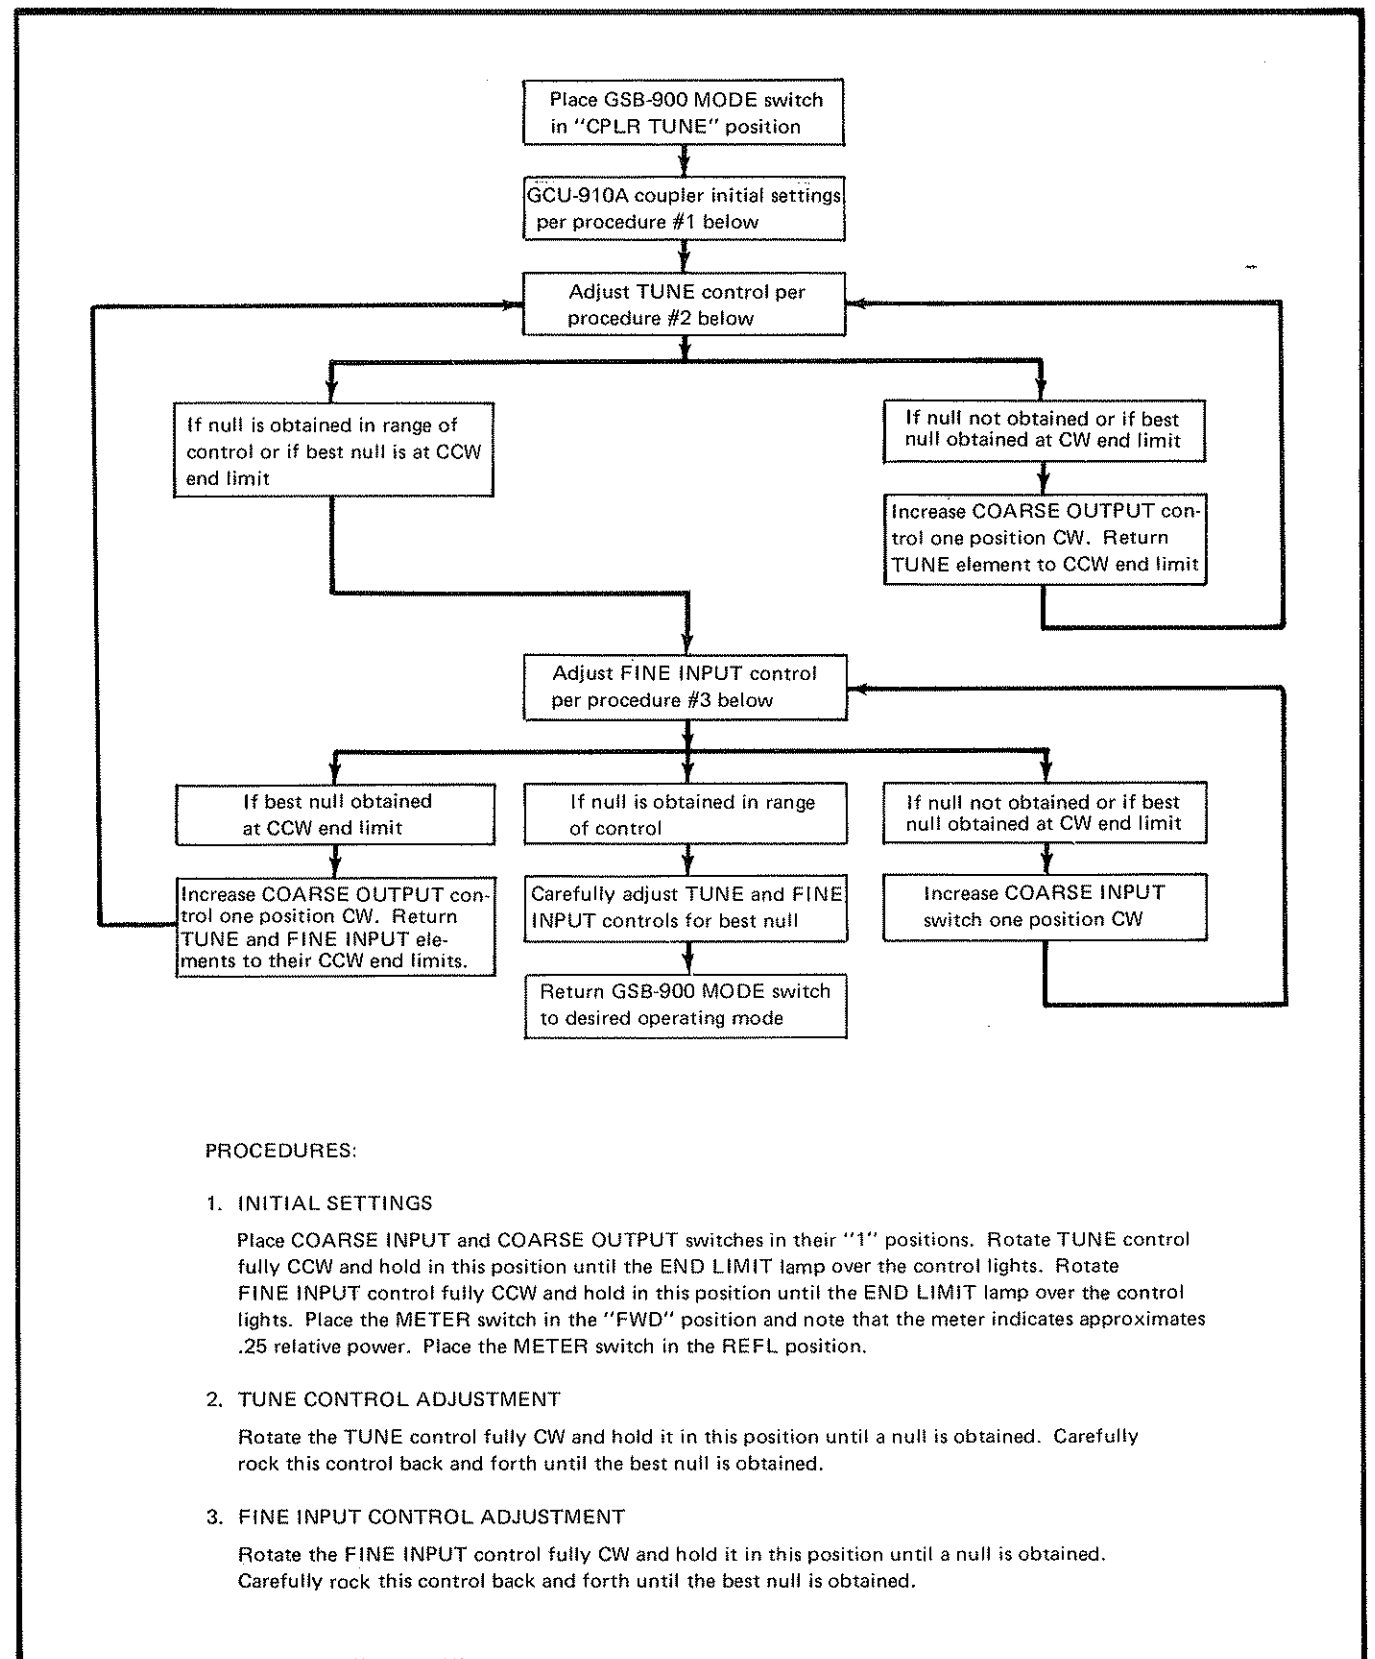

Figure 3.1 Antenna Coupler Tuning Procedure
3.3 OPERATING THE GCU-910A ANTENNA COUPLER WITH THE GSB-900 TRANSCEIVER (REF. FIGURE 3.1)